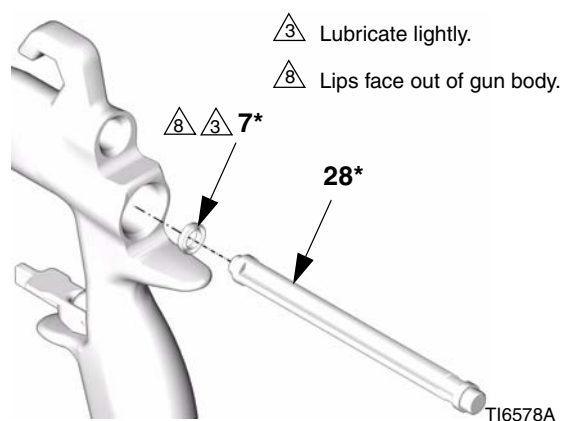

FIG. 42
3. Place the new u-cup (7*) on the seal installation tool (28*), with the u-cup lips facing the tool as shown in FIG. 42. Push the u-cup into the back of the gun until you feel a definite snap.